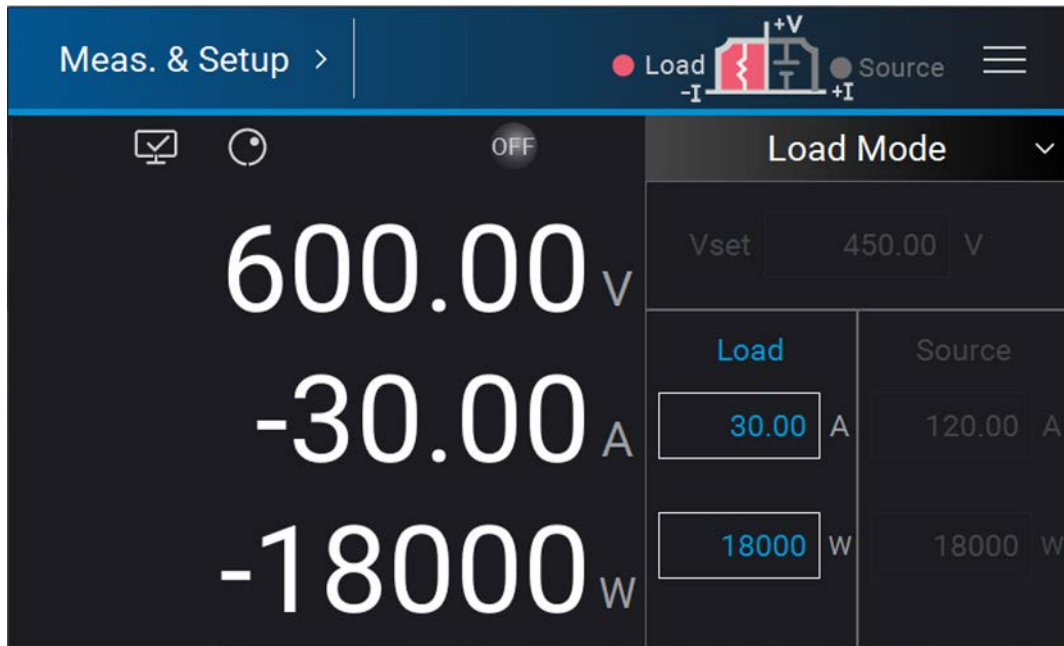

Figure 3-6
1. Tap the drop-down menu and select Load Mode; the panel will switch to the screen as Figure 3-6 shows.